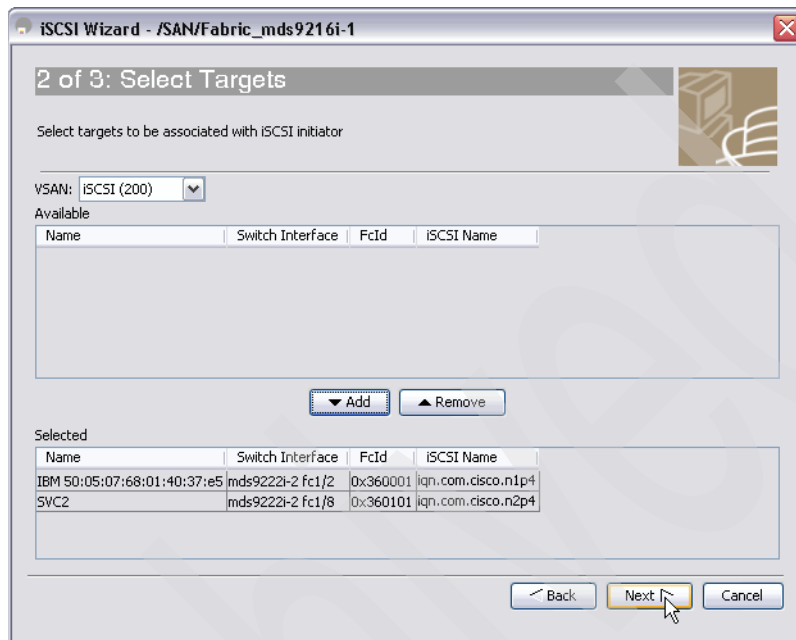

Figure 7-46 Fabric Manager iSCSI Wizard panel 2 of 3
2. In the next step, all known targets are displayed (Figure 7-46). We select both and click **Add**, located in the middle of the upper and lower panels. We click **Next**.